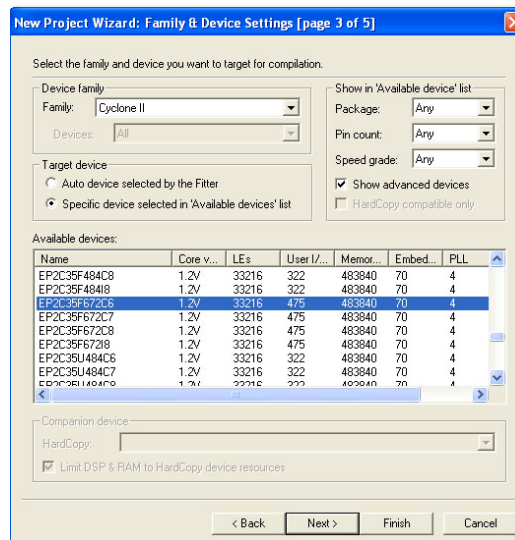

Figure 6-5
6. Page 3 of 5 of the New Project Wizard (Figure 6-5) allows one to select the device family. This screen will allow us to specify the actual CPLD that we will target for our design. In the dropdown box for the **Family**, select **Cyclone II**. Place a check in the box for **Specific device**. Highlight the **EP2C35F672C6** and click **Next**.